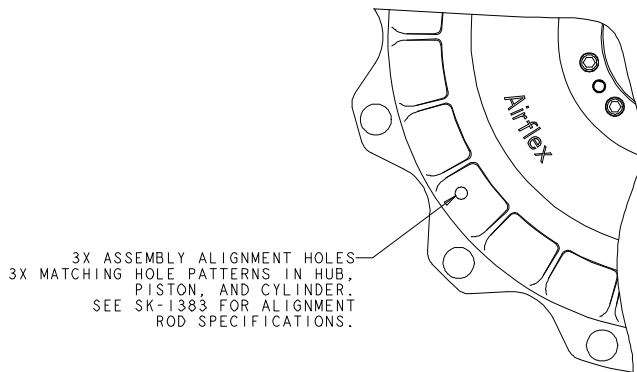

Figure 14
- 4.4.5 Apply Dow Corning® #55 lubricant to the piston seals (9)(10) and install on the piston. Refer to Figure 14 for seal orientation.